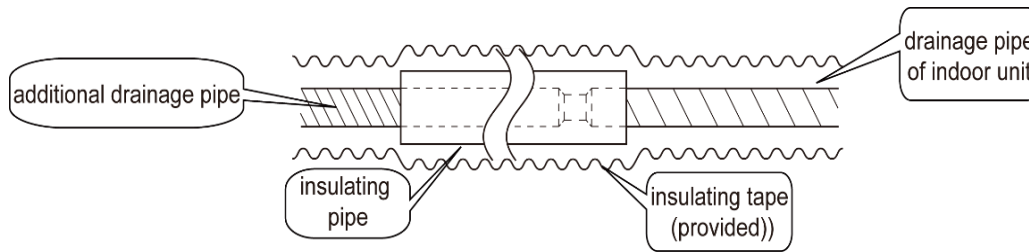

Fig9
3. Install the drainage pipe according to the following (Fig9) and attach the insulation to the drainage pipe.